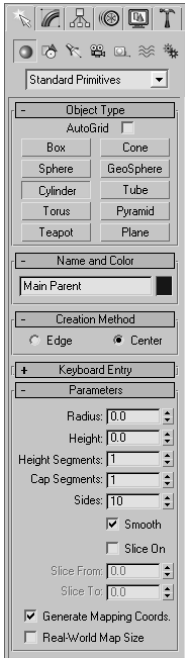

Figure 2.4
1. In the Command panel, activate the Create panel (as shown in Figure 2.4) by clicking on the Create tab (🖱️). The Create panel is usually enabled by default. Click the Geometry button (🔵) to display the Geometry Object Types; it is usually enabled by default. You will see a number of ways to create various objects. You will begin most, if not all, of your Max models in this panel.
2. With Standard Primitives selected in the pull-down menu, as shown in Figure 2.4, click the create Cylinder button. The Cylinder button will turn orange, and your cursor will turn from the obligatory arrow to a cross.